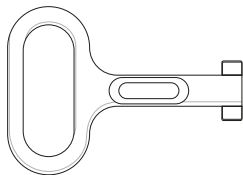

Figure 3: Enclosure Key
3. Insert enclosure key into control box cover and turn to open. Refer Figure 3.